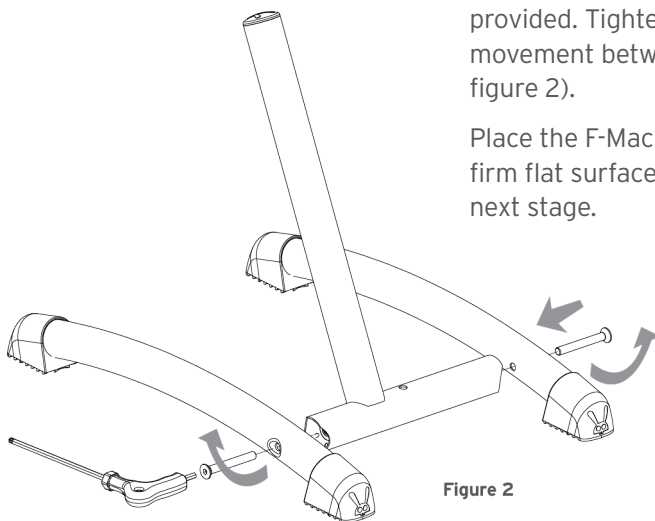

Figure 2
Take both the curved legs (note that they are handed) and assemble them to the central T-piece leg, using the large countersunk screws (2) provided. Tighten until there is no movement between the pieces (see figure 2).